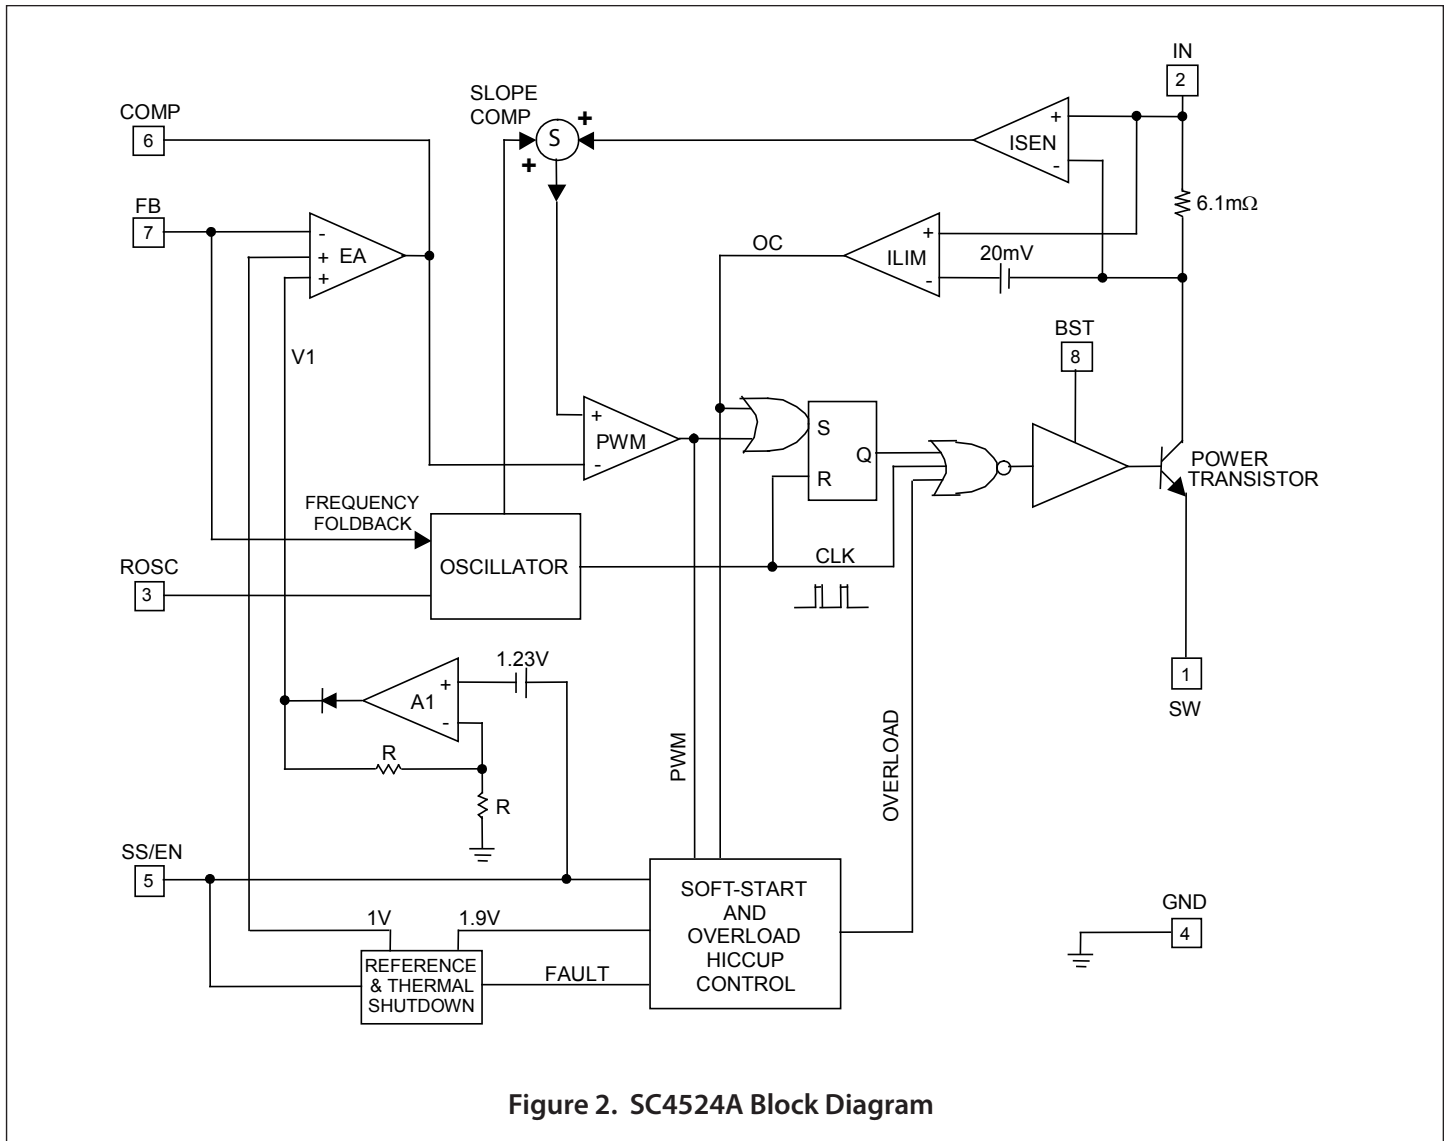

Figure 2. SC4524A Block Diagram
As shown in Figure 2, the switch collector current is sensed with an integrated 6.1mΩ sense resistor. The sensed current is summed with a slope-compensating ramp before it is compared with the transconductance error amplifier (EA) output. The PWM comparator trip point determines the switch turn-on pulse width. The current-limit comparator ILIM turns off the power switch when the sensed signal exceeds the 20mV current-limit threshold.
The error amplifier EA in Figure 2 has two non-inverting inputs. The non-inverting input with the lower voltage predominates. One of the non-inverting inputs is biased to a precision 1V reference and the other non-inverting input is tied to the output of the amplifier A₁. Amplifier A₁ produces an output V₁ = 2(V_{SS/EN} - 1.23V). V₁ is zero and COMP is forced low when V_{SS/EN} is below 1.23V. During start up, the effective non-inverting input of EA stays at zero until the soft-start capacitor is charged above 1.23V. Once V_{SS/EN} exceeds 1.23V, COMP is released. The regulator starts to switch when V_{COMP} rises above 0.4V. If the soft-start interval is made sufficiently long, then the FB voltage (hence the output voltage) will track V₁ during start up. V_{SS/EN} must be at least 1.83V for the output to achieve regulation. Proper soft-start prevents output overshoot. Current drawn from the input supply is also well controlled.
As the load draws more current from the regulator, the current-limit comparator ILIM (Figure 2) will eventually limit the switch current on a cycle-by-cycle basis. The over-current signal OC goes high, setting the latch B₃. The soft-start capacitor is discharged with (I_D - I_C) (Figure 3). If the inductor current falls below the current limit and the PWM comparator instead turns off the switch, then latch B₃ will be reset and I_C will recharge the soft-start capacitor. If over-current condition persists or OC becomes asserted more often than PWM over a period of time, then the soft-start capacitor will be discharged below 1.9V. At this juncture, comparator B₄ sets the overload latch B₂. The soft-start capacitor will be continuously discharged with (I_D - I_C). The COMP pin is immediately pulled to ground. The switching regulator is shut off until the soft-start capacitor is discharged below 1.0V. At this moment, the overload latch is reset. The soft-start capacitor is recharged and the converter again undergoes soft-start. The regulator will go through soft-start, overload shutdown and restart until it is no longer overloaded.
The PWM latch in Figure 2 is reset every cycle by the clock. The clock also turns off the power transistor to refresh the bootstrap capacitor. This minimum off time limits the attainable duty cycle of the regulator at a given switching frequency. The measured minimum off time is 100ns typically. If the required duty cycle is higher than the attainable maximum, then the output voltage will not be able to reach its set value in continuous-conduction mode.